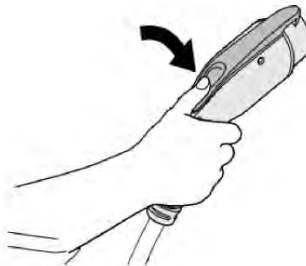

Fig. 6-21 Plug into EV socket
- As shown in Fig.6-21, plug the charging connector into the AC charging socket of the EV.